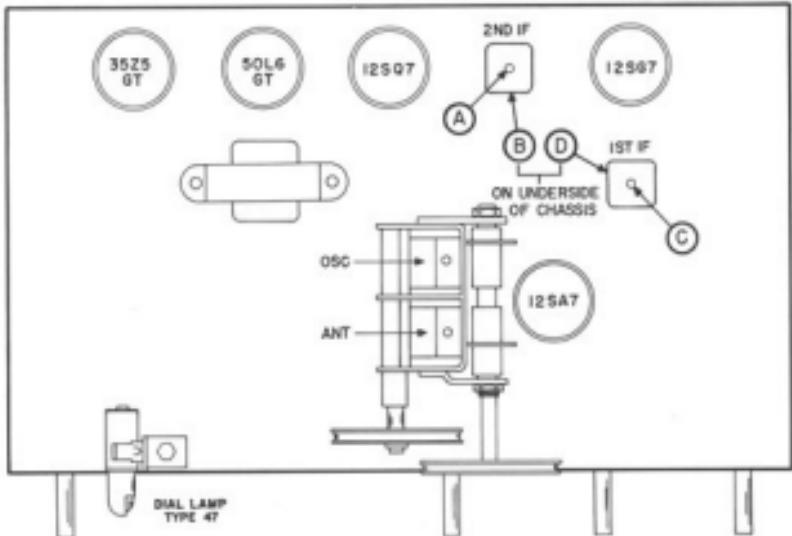

Fig. 7. Top View of Chassis Showing Location of Alignment Adjustments, Tubes and Dial Lamp.
The dial lamp and tubes are accessible for replacement by removing the cabinet back. For types used and location, refer to Fig. 7.
- * See Figs. 7 and 8 for location of alignment adjustments.